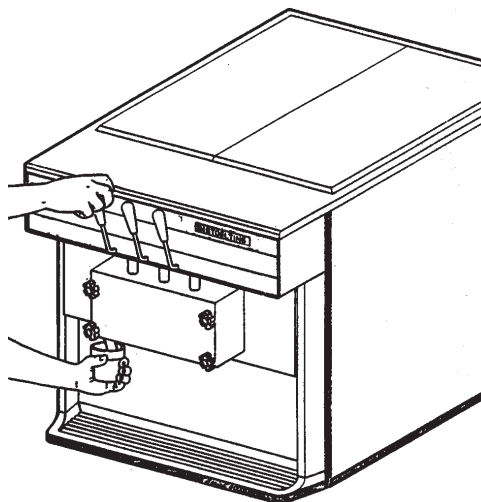

Figure 16. Dispensing Product
- H. For normal dispensing, move the spigot handle open 60° (Fig. 16).